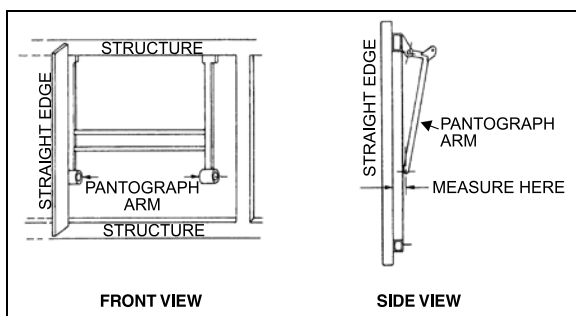
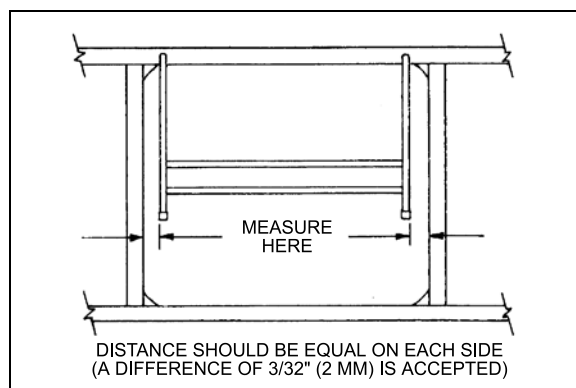

FIGURE 67: PANTOGRAPH DOOR ADJUSTMENT
FIGURE 68: PANTOGRAPH DOOR ADJUSTMENT
Measure distance between a pantograph arm end and a straight edge resting on structure. Repeat procedure for the other arm. The distance on each side should be equal. If not, bend appropriate arm until desired measure is obtained (Figure 67 & Figure 68).
5. When the door is straight, remove the 2x4's and check door operation and fit. A difference of $\frac{3}{32}$ " (2mm) between both sides is accepted (Figure 68).
3. If the door is too far inside, adjust using a rubber mallet (Refer to figure 68).